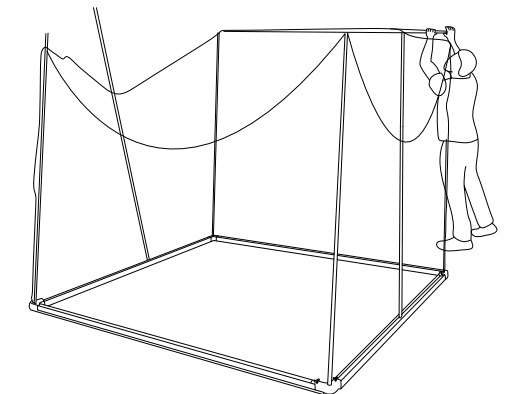

Fig. 3a
**Step 8:** Starting at the rear of the booth, begin treading the orange 2m tubes (Item E) through the top hems. Raise to connect the ends to the top of the white poles (Item D). Magnets on the top of the white poles will connect to the steel balls on the ends of the rounded orange tube. Fig. 3a (below)